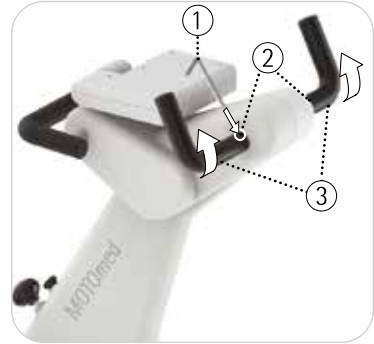

Fig. 4.2, 4.3
see Fig. 4.2, 4.3 Loosen the supplied SW4 Allen key ① from the clip on the underside of the left-hand safety foot shell. Use the Allen key to loosen the screws ② on both retaining handlebars ③. Unscrew the screws completely and store them safely. Turn both handles 180° so that the ends point upwards. Use the hexagon socket wrench to install the screws again and tighten them until resistance is felt. Clip the Allen wrench back into its holder.